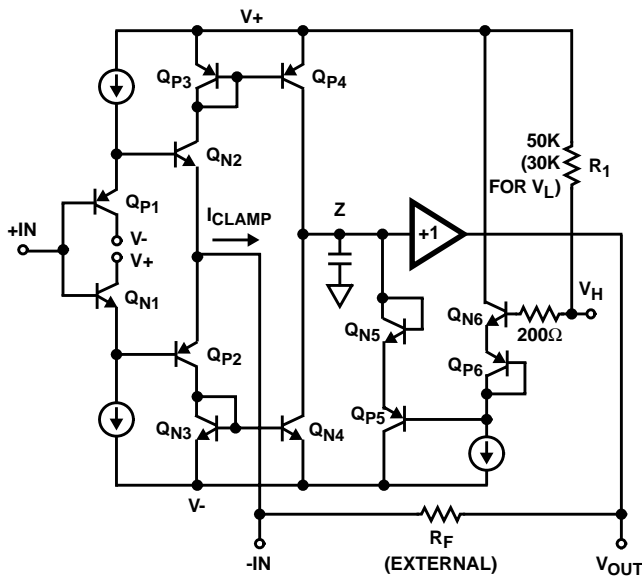

FIGURE 1. HS-1135RH SIMPLIFIED V_H CLAMP CIRCUITRY
Figure 1 shows a simplified schematic of the HS-1135RH input stage, and the high clamp (V_H) circuitry. As with all current feedback amplifiers, there is a unity gain buffer (Q_{X1} - Q_{X2}) between the positive and negative inputs. This buffer forces $-IN$ to track $+IN$, and sets up a slewing current of $(V_{IN} - V_{OUT})/R_F$. This current is mirrored onto the high impedance node (Z) by Q_{X3} - Q_{X4} , where it is converted to a voltage and fed to the output via another unity gain buffer. If no clamping is utilized, the high impedance node may swing within the limits defined by Q_{P4} and Q_{N4} . Note that when the output reaches its quiescent value, the current flowing through $-IN$ is reduced to only that small current ($-I_{BIAS}$) required to keep the output at the final voltage.
The clamped output voltage will not be exactly equal to the voltage applied to V_H or V_L . Offset errors, mostly due to V_{BE} mismatches, necessitate a clamp accuracy parameter which is found in the device specifications. Clamp accuracy is a function of the clamping conditions. Referring again to Figure 1, it can be seen that one component of clamp accuracy is the V_{BE} mismatch between the Q_{X6} transistors, and the Q_{X5} transistors. If the transistors always ran at the same current level there would be no V_{BE} mismatch, and no contribution to the inaccuracy. The Q_{X6} transistors are biased at a constant current, but as described earlier, the current through Q_{X5} is equivalent to I_{CLAMP} . V_{BE} increases as I_{CLAMP} increases, causing the clamped output voltage to increase as well. I_{CLAMP} is a function of the overdrive level $(V_{-IN} - V_{OUTCLAMPED})$ and R_F , so clamp accuracy degrades as the overdrive increases, or as R_F decreases. As an example, the specified accuracy of $\pm 60mV$ for a 2X overdrive with $R_F = 510\Omega$ degrades to $\pm 220mV$ for $R_F = 240\Omega$ at the same overdrive, or to $\pm 250mV$ for a 3X overdrive with $R_F = 510\Omega$.